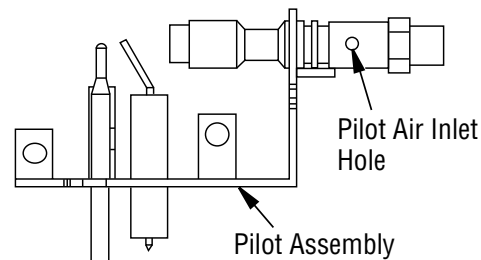

Figure 73 - Pilot Inlet Air Hole (Your pilot may vary from pilot shown)
- Clean pilot assembly also. A yellow tip on the pilot flame indicates dust and dirt in the pilot assembly. There is a small pilot air inlet hole about 2" from where the pilot flame comes out of the pilot assembly (*see Figure 73*). With the unit off, lightly blow air through the air inlet hole. You may blow through a drinking straw if compressed air is not available.